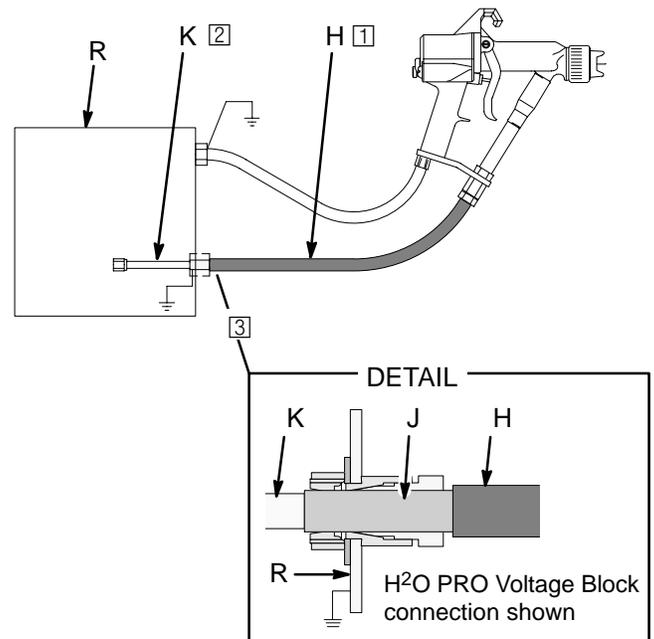

Fig. 6
8. Connect the other end of the hose to the isolated fluid supply as instructed in the voltage isolation system manual. See Fig. 6.
To reduce the risk of an electric shock, the areas of the waterborne fluid hose that are accessible to personnel during normal operation must be covered by the outer hose jacket (H). See Fig. 6.
#### KEY- Fig. 6